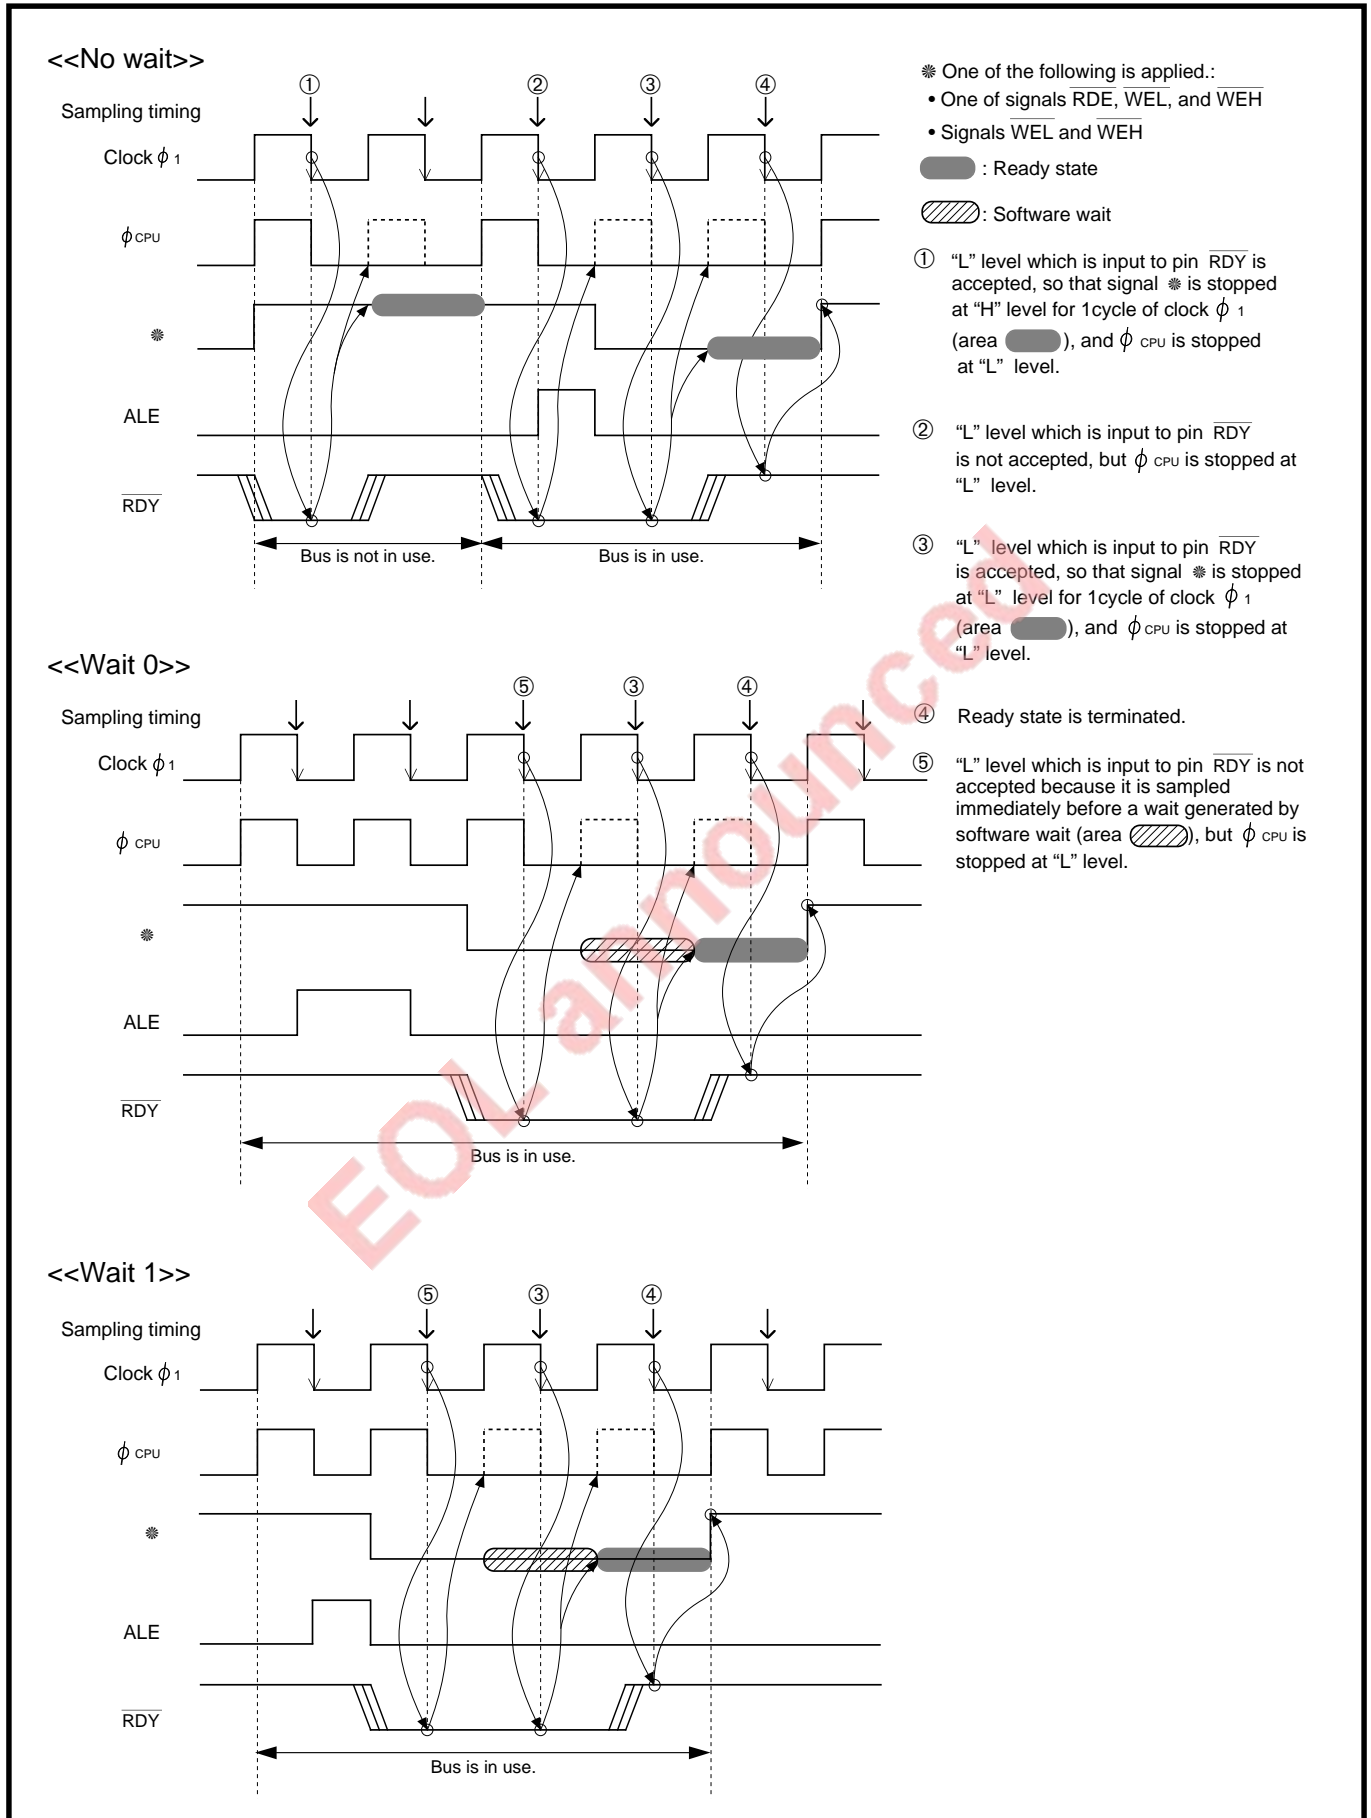

Fig. 12.3.2 Timings when ready state is accepted and terminated (when not using signal  $\overline{RSMP}$ )
- When the levels of signals  $\overline{\text{RDE}}$ ,  $\overline{\text{WEL}}$ , and  $\overline{\text{WEH}}$  are “H” while the bus is in use (Refer to ② in **Figure 12.3.2.**)
- Immediately before a wait generated by the software wait (Refer to ⑤ in **Figure 12.3.2.**)
When “L” level is input to pin  $\overline{RDY}$ , this signal is accepted at the falling edge of clock  $\phi_1$  and the microcomputer enters the ready state. The ready state can be terminated by setting pin  $\overline{RDY}$ 's level to “H” again. When “H” level is input to pin  $\overline{RDY}$ , this signal is also accepted at the falling edge of clock  $\phi_1$  and the ready state is terminated. Figure 12.3.2 shows timings when the ready state is accepted and terminated.